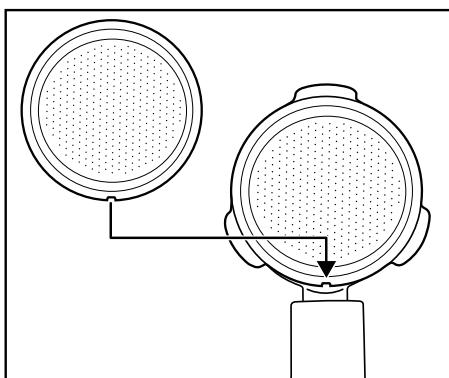

Figure 2
- 1) Fill the water tank ⑨ with tap water.
- 2) Place either the large ⑯ or the small espresso sieve ⑰ in the sieve holder ⑯:
- Make sure that the small indentation on the large ⑯ or small espresso sieve ⑰ is located above the indentation on the sieve holder ⑯ when inserted (Figure 2).